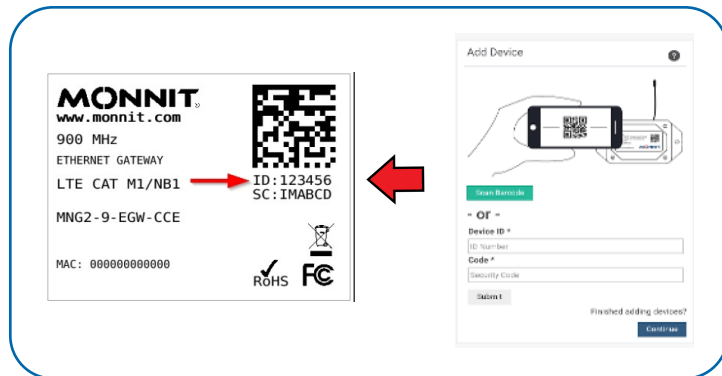

Figure 2
You will need to enter the **Device ID** and the **Security Code (SC)** from your gateway in the corresponding text boxes. Use the camera on your smartphone to scan the QR code on your gateway. If you don't have a camera on your phone, or are accessing iMonnit through a desktop computer, you may manually enter the **Device ID** and **SC**. See Figure 2.